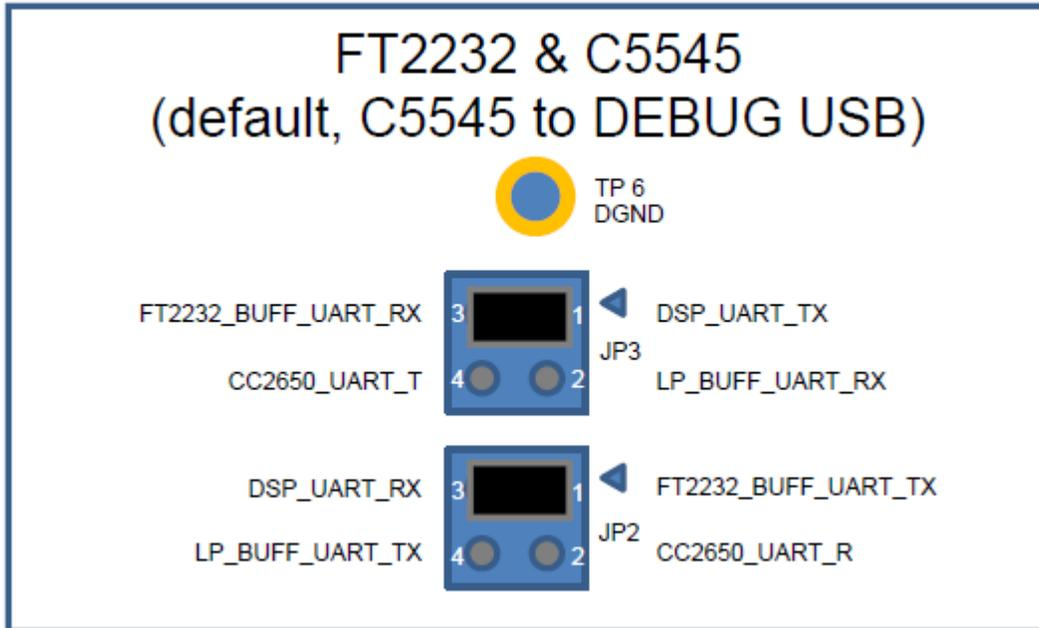

Figure 2. C5545 JP2 JP3 for UART Boot
2. If using the C5535 eZdsp, ensure pin 2 of SW3 is in the ON position. If using the C5545 BoosterPack, ensure jumpers on JP2 and JP3 are each between pins 1 and 3, see Figure 2).